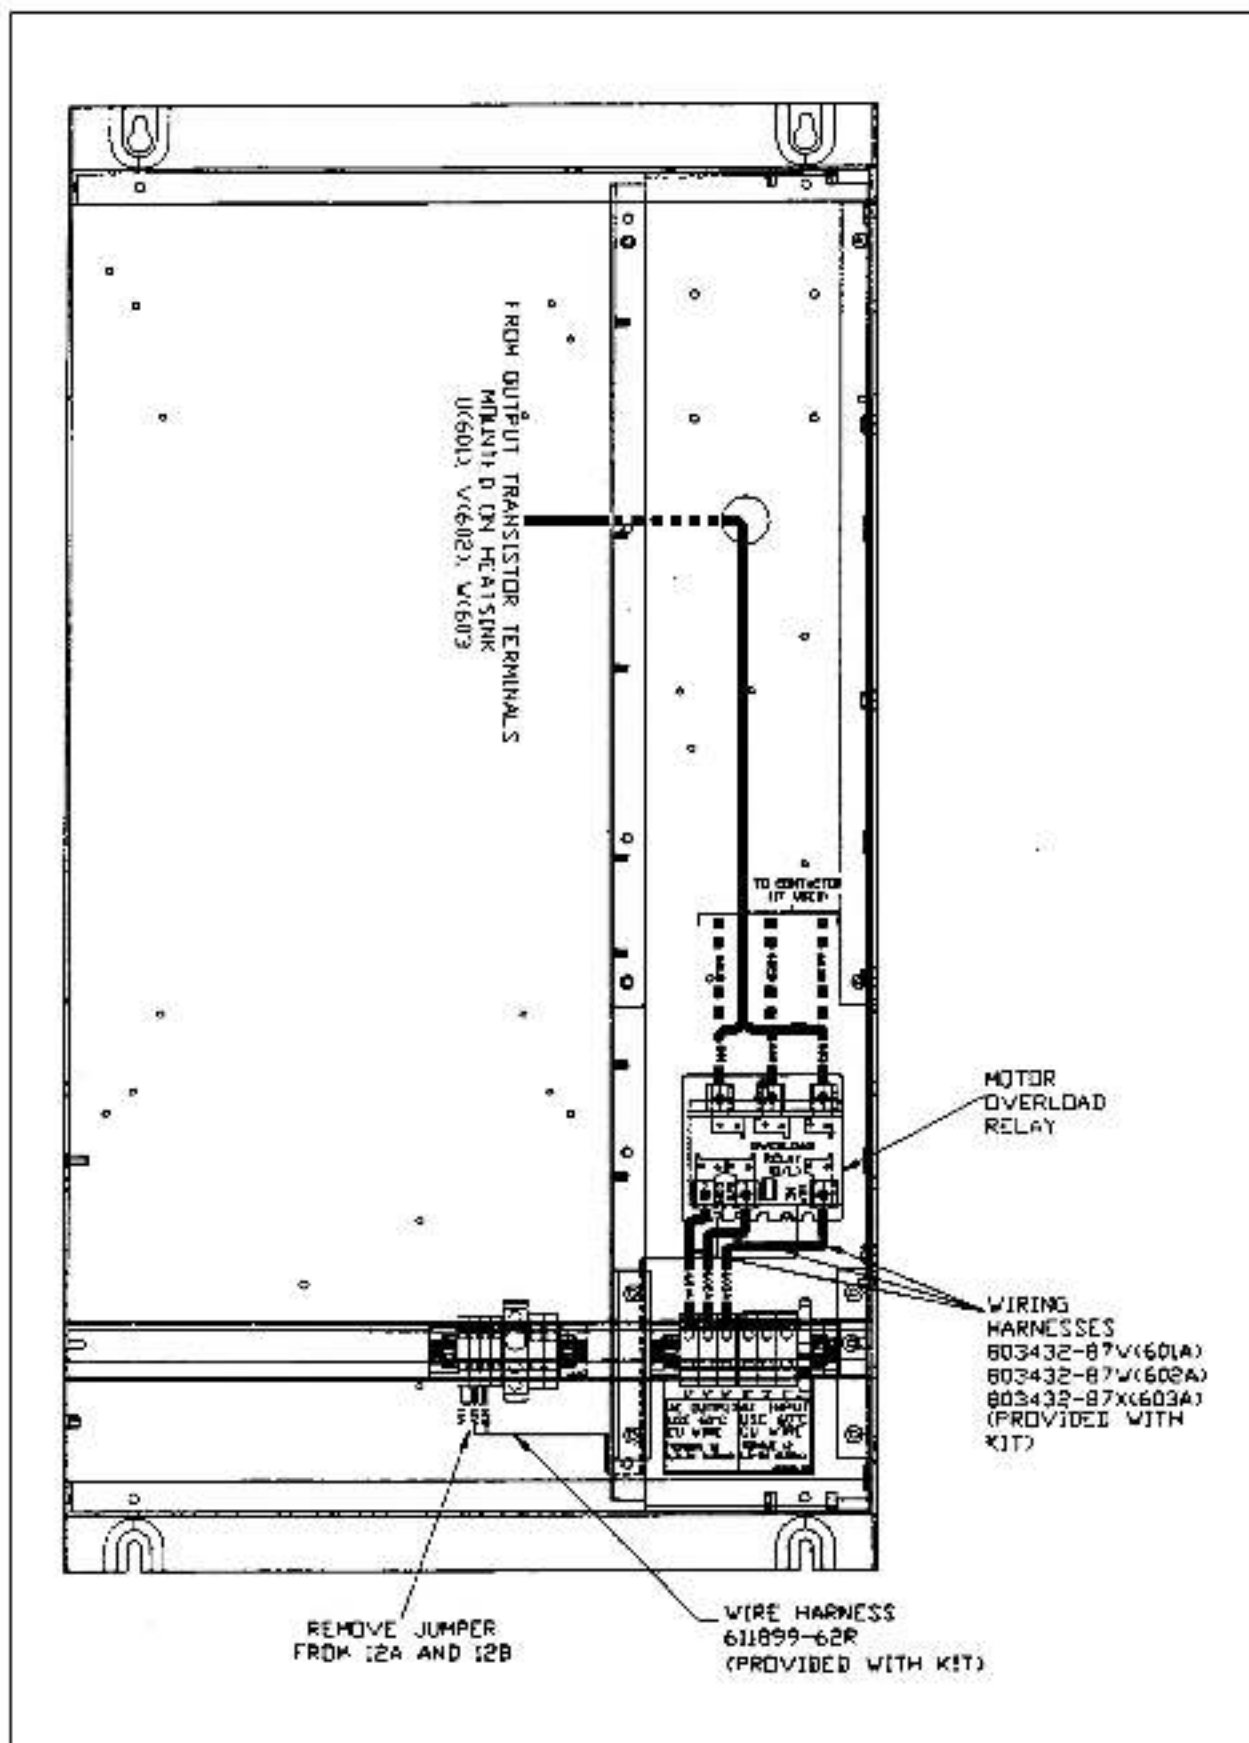

Figure 4. 25-40 HP GP2000 or 1-50 HP VTAC V, Overload Relay Mounting Location.
3. Mount the overload relay in the Expanded Cabinet. Refer to Figure 3 (1–20 HP GP2000 with Expanded Cabinet) or to Figure 4 (25–40 HP GP2000 or 1–50 HP VTAC V) for mounting location.